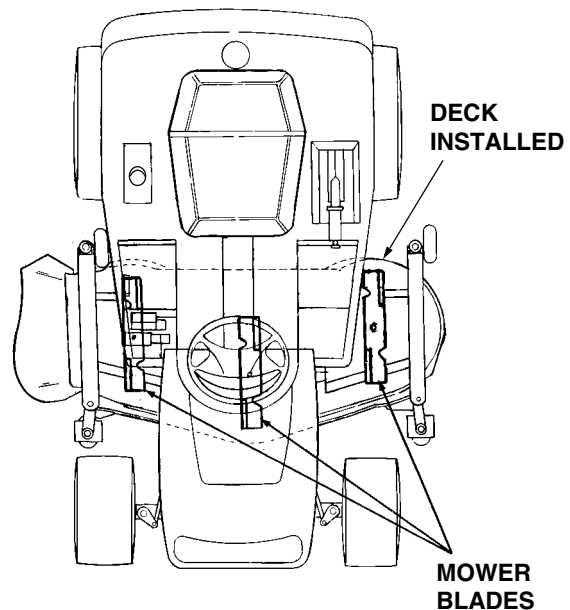

Figure 54
3. Position the mower blades so the ends of each blade point to the front and the rear of the tractor (See Figure 54).